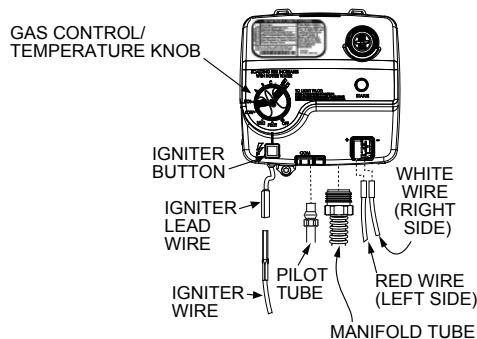

FIGURE 28.
1. Turn the gas control/temperature knob to the "OFF" position (Figure 28).
5. Disconnect the following from the gas control valve/thermostat: pilot tube (7/16" wrench), igniter wire (from the igniter lead wire), and manifold tube (3/4" wrench). See Figure 28.
6. Disconnect the white and red wires from the gas control valve/thermostat (Figure 28). Use needle nose pliers to grip the connector(s). **IMPORTANT:** Grip the connector carefully to prevent damage. Do not grip or pull the wires themselves.
6. Reconnect the manifold tube (3/4" wrench) and pilot tube (7/16" wrench) to the gas control valve/thermostat (Figure 28). Do not cross-thread or apply any thread sealant to the fittings.
7. Connect the white and red wires to the gas control valve/ thermostat as shown in Figure 28. Also, ensure that the red thermal switch wires are connected to the thermal switch on the manifold door (Figure 33).
8. Reconnect the igniter wire (Figure 28).
4. Disconnect the igniter wire from the igniter lead wire. Use needle nose pliers to disconnect the red (+) and white (-) thermopile wires. Disconnect the pilot tube (7/16" wrench) and manifold tube (3/4" wrench) at the gas control valve/thermostat (Figure 28).